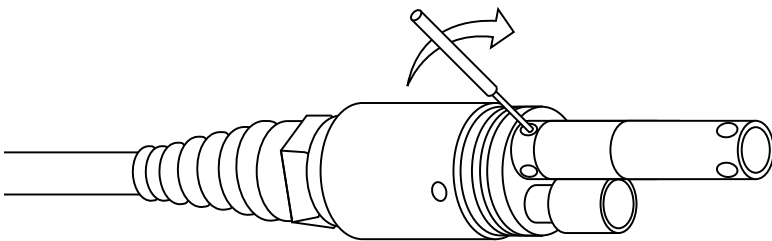

Figure 5 Installation tool used to tighten the stainless steel retaining nut of the C/T sensor.
6. Once completely installed, the nut will seat flat against the bulkhead. At this point, use the tool that was included with the sensor to turn the nut an additional $\frac{1}{4}$ to $\frac{1}{2}$ turn (Figure 5). **DO NOT over tighten.**